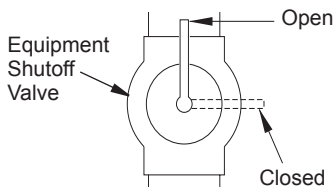

Figure 17 - Equipment Shutoff Valve
1. Close equipment shutoff valve (see Figure 17).
1. Open equipment shutoff valve (see Figure 17, page 15).